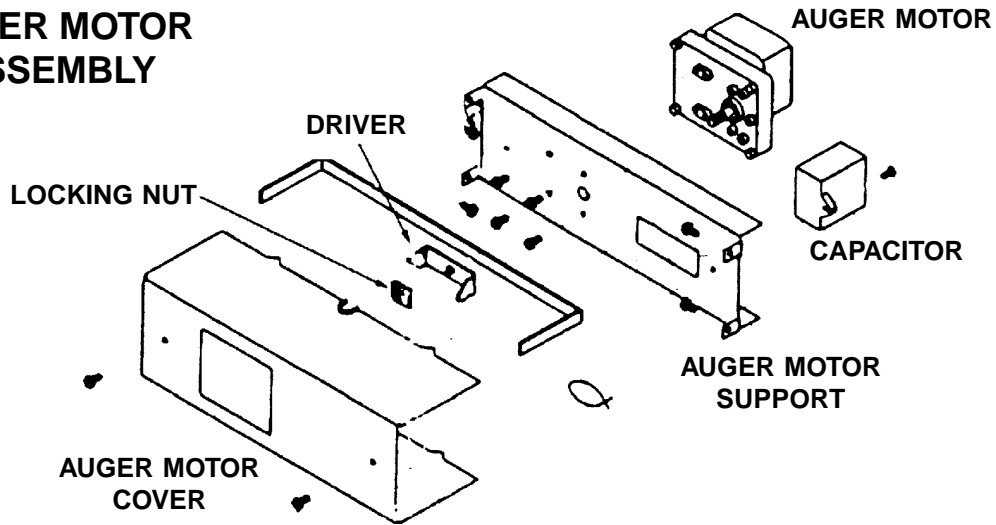
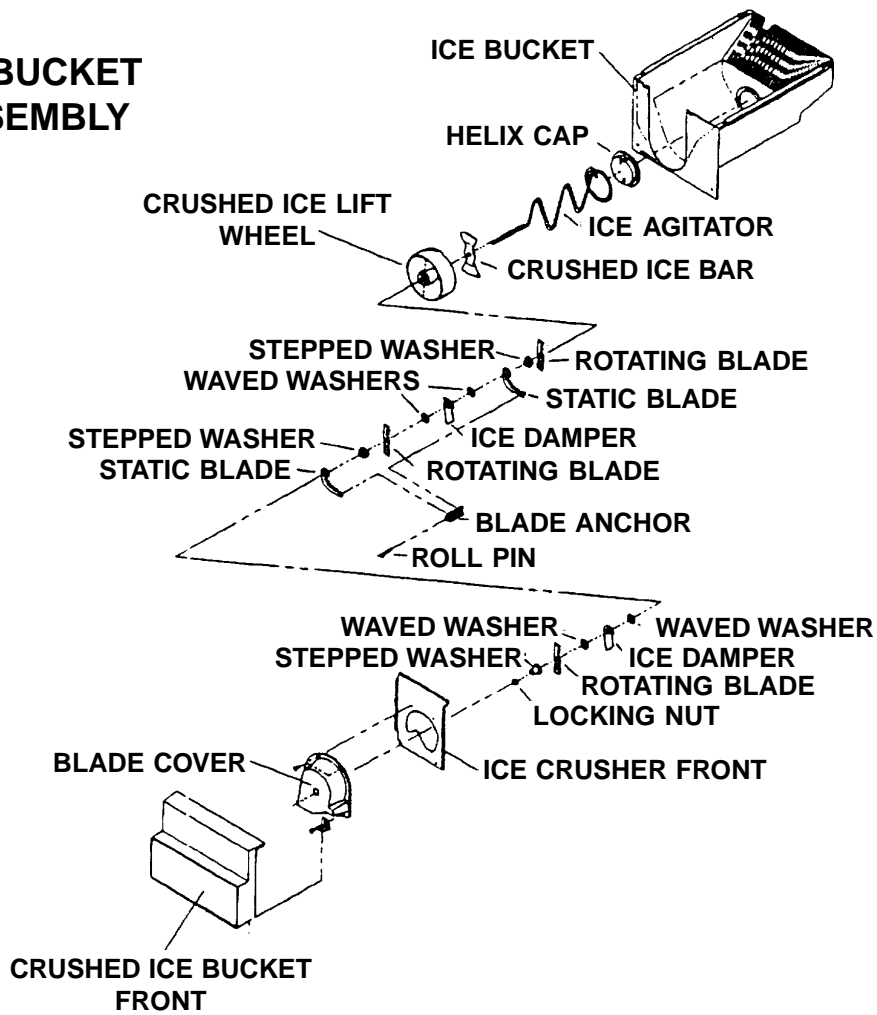

Fig. 7
Fig. 8
2. When the storage bin is full, a shut-off arm prevents additional ice production until ice has been removed, which lowers the shut-off arm. The storage bin will hold approximately 8 pounds of ice. A motor driven helix is mounted near the bottom of the storage bin. (Fig. 7) When energized, the helix moves the ice to the front of the storage bin where ice is directed into a lift wheel mechanism. (Fig. 8)